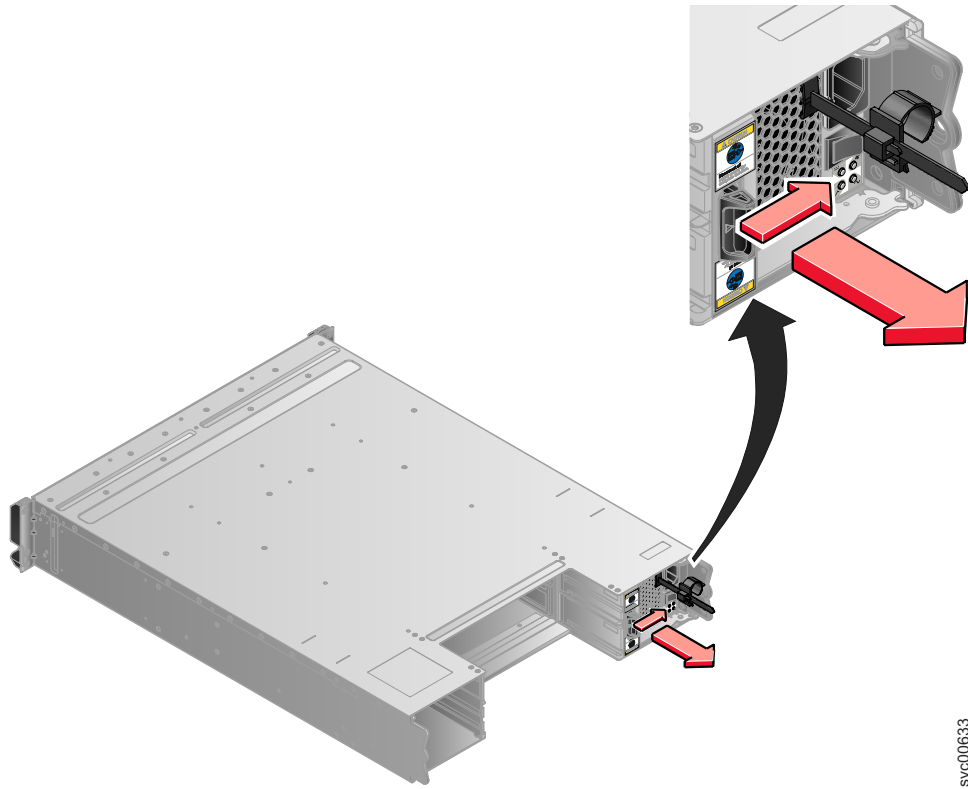

Figure 85. Directions for lifting the handle on the power supply unit
- a. Depress the black locking catch from the side with the colored sticker as shown in Figure 85 on page 306.